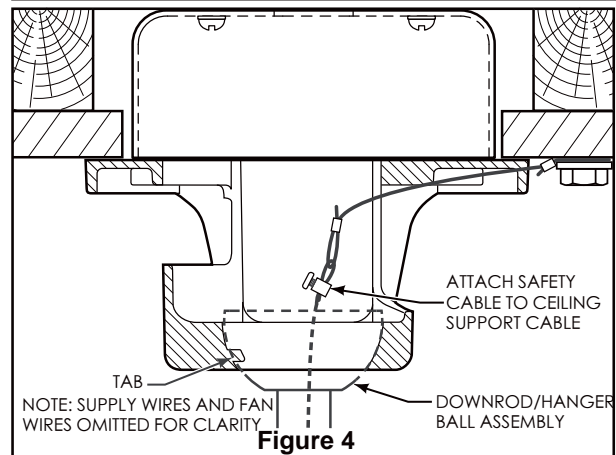

Figure 4
4. Carefully lift the fan and seat the downrod/hanger ball assembly on the hanger bracket that was just attached to the ceiling joist. Be sure the groove in the ball is lined up with tab on the hanger bracket. (Figure 4)
5. Attach the safety cable to ceiling support cable. Slide cable clamp onto safety cable (from fan). Place the end of cable through the loop of ceiling support cable. Pull as much cable through loop as possible. Feed end of cable into clamp hole and firmly tighten screw (Figure 4). Cut off excess safety cable.
3. After connections have been made, turn leads upward and carefully push leads into the outlet box, with the white and green leads to one side of the box and the black leads to the other side. (Figure 4)
Connect the 2 single pin connectors from the LED assembly to the 2 single pin connectors from motor assembly. (Figure 4 )
- 4.** To set the remote code with a small screwdriver or ball point pen (neither included), slide dip switches firmly up or down. (Figure 4)